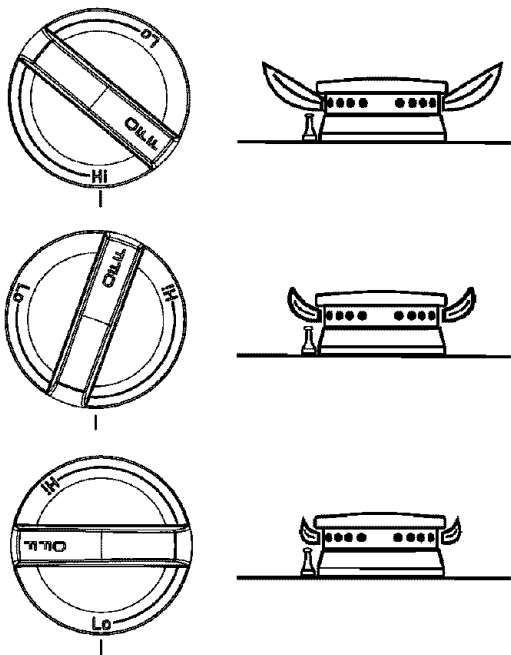

FIGURE 14
After Conversion Steps A, B and C have been completed, check the appearance of each burner flame at the Hi and Lo settings against figure 14. If the flames appear too large or too small, review each step to make sure it was completed correctly.
6. Starting from the LP position (see #5 on page 9, under C. LOW FLAME ADJUSTMENT), turn the screw counter clockwise until the flame stabilizes and matches the pictured “low” setting on figure 14. Proper adjustment will produce a stable, steady blue flame of minimum size. The final adjustment should be checked by turning the knob from high to low several times without extinguishing the flame.
After Steps A, B and C have been completed, check the appearance of each burner’s flame at the Hi and Lo settings against figure 14. If the flames appear too large or too small, make sure all steps were completed correctly.